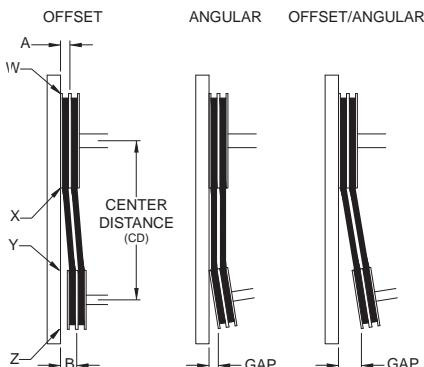

Figure 2
- Ensure pulleys are properly aligned. Refer to Figure 2.
Figure 2 indicates where to measure the allowable gap for the drive alignment tolerance. All contact points (indicated by WXYZ) are to have a gap less than the tolerance shown in the table. When the pulleys are not the same width, the allowable gap must be adjusted by half of the difference in width. Figure 3 illustrates using a carpenter's